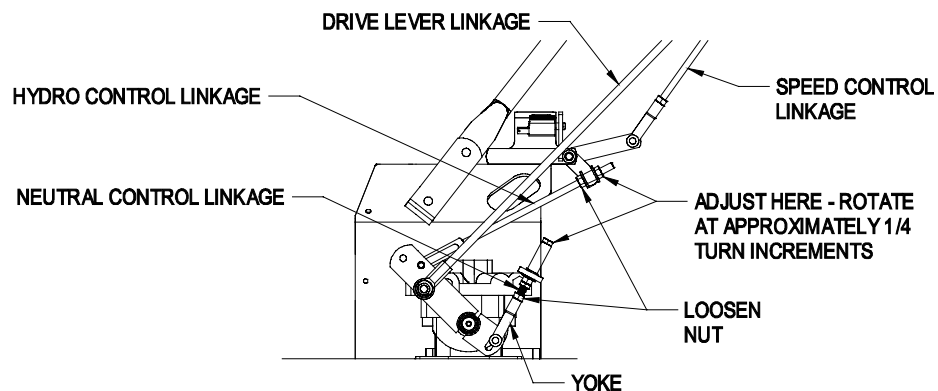
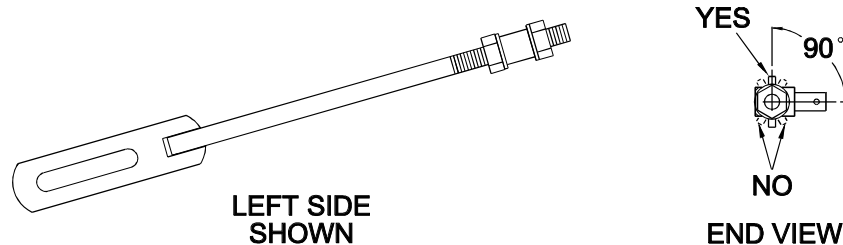

FIGURE 10
FIGURE 11
4. Loosen the nut against the neutral control linkage yoke as shown in Figure 10.
2. Loosen the front nut on **left** hydro control link as shown in Figure 10. Turn the rear control linkage adjusting nut counter-clockwise until wheel rotates forward. Turn the rear nut of left control link clockwise 1/4 of a turn at a time, stopping to move the speed control forward and back to neutral, until left wheel stops rotating forward. Turn the nut an additional 1/2 turn and tighten the front jam nut making sure not to put a bind on the linkage. Make sure flat part of linkage is perpendicular to pin part of swivel. See Figure 11.